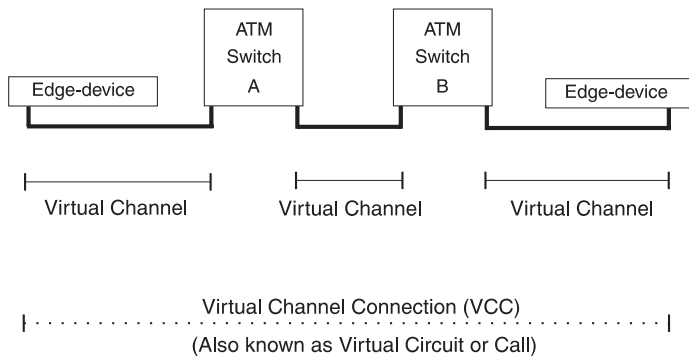

Figure 2-6 Connection Terminology
A VCC is defined as spanning end-to-end, whereas a *Virtual Channel (VC)* is the name given to a section of the VCC, refer to Figure 2-6.